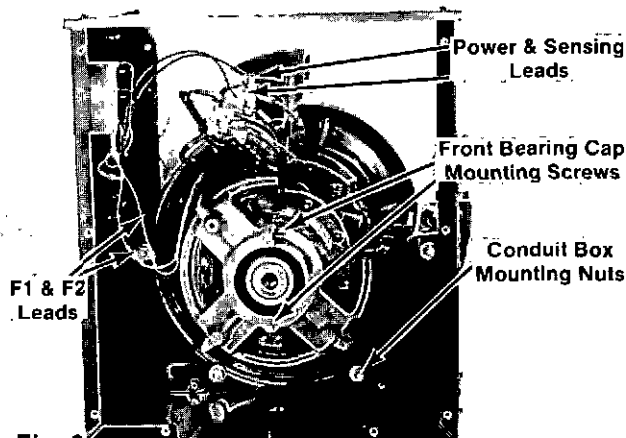

Fig. 6
2. Disconnect F1 and F2 leads of the exciter stator from the regulator and the power and sensing leads from the main stator leads (see figure 6).
10. Remove the conduit box mounting nuts and lift off the box (see figure 6).